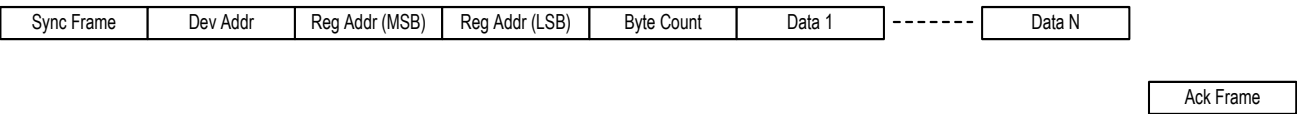

Figure 61. UART Write Protocol Format
The UART write protocol consists of a 5-byte header followed by one or more data bytes (Figure 61). The LSB of the device address frame is 0. The addressed device responds with an Ack frame if no errors are detected, and the transmission is valid. The byte count indicates the number of data bytes to be written (N). This must be a non-zero number.